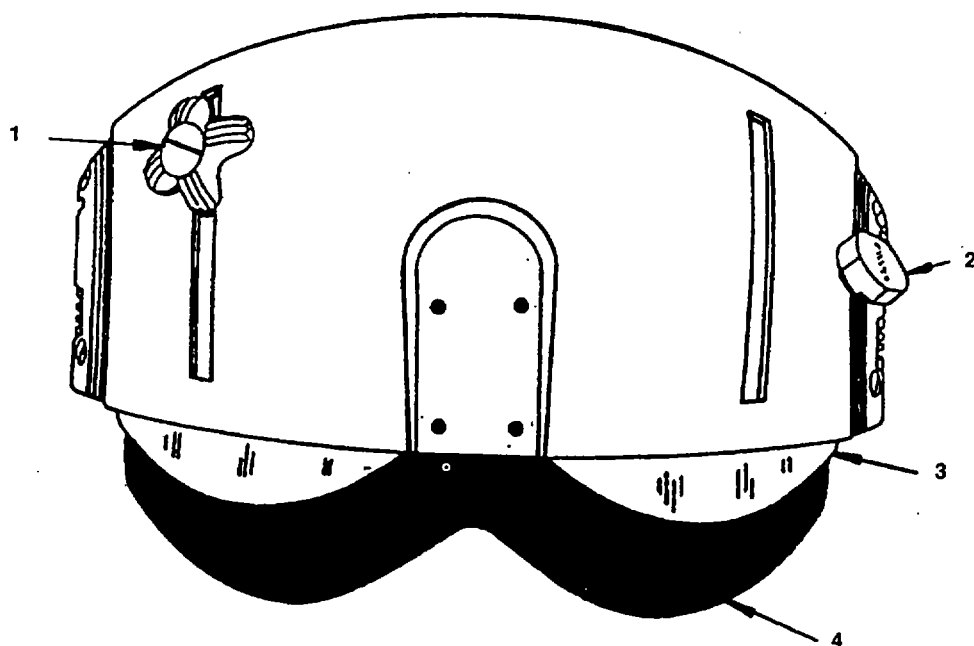

Figure 2-6. Visor Mechanisms
g. Visor Mechanisms (Figure 2-6). The outer visor lock (1) raises and lowers the outer lens (3). The actuating knob (2) raises and lowers the inner lens (4). Both the outer visor lock and the actuating knob can be moved to the other side of the housing for right- or left-hand operation.